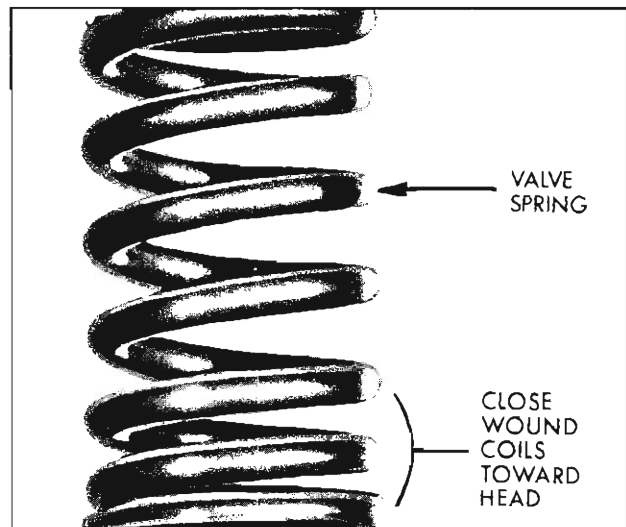

Fig. 3-109 Valve Spring
12. Lube stems and tips with engine oil and re-install valves, valve springs, caps and cap retainers, using same equipment used for removal. Install valve spring with closely wound coils toward the cylinder head. (Fig. 3-109)